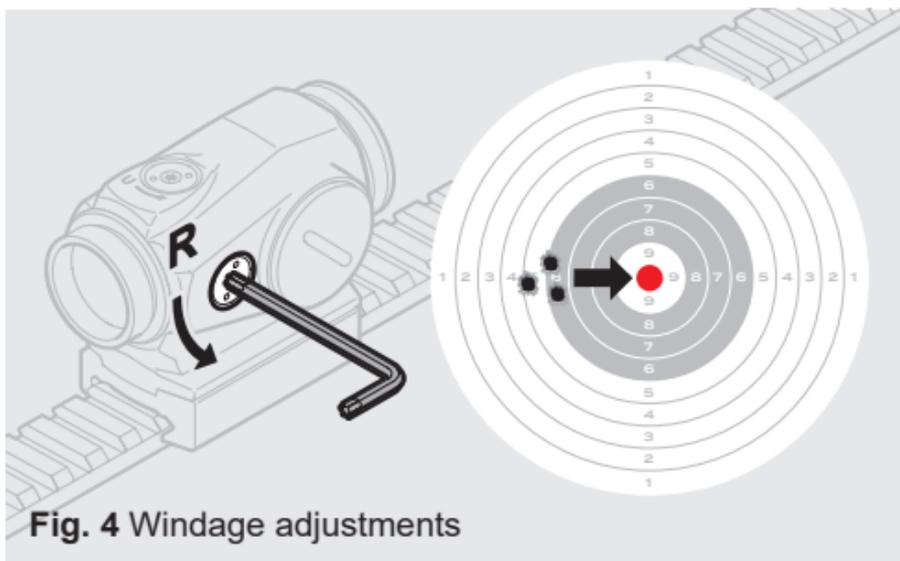
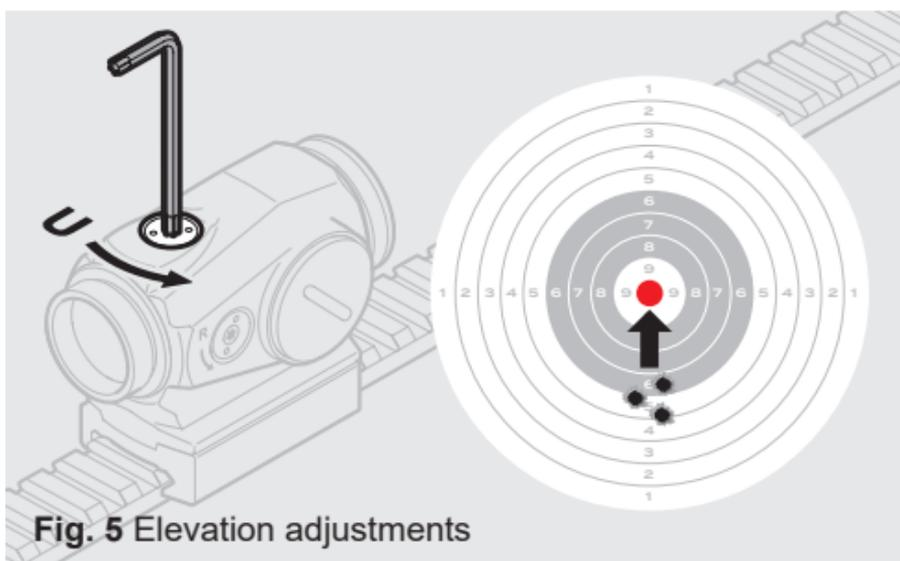

Fig. 4 Windage adjustments
Fig. 5 Elevation adjustments
- c Use the Torx T10 tool (3) to turn the adjustment screws.
- d Windage adjustments (see Fig. 4):
- Turn windage adjustment screw (6) counterclockwise to move point of impact to the right (R).
- Turn windage screw (6) clockwise to move point of impact to the left.
- e Elevation adjustments (see Fig. 5):
- Turn elevation adjustment screw (7) counterclockwise to move point of impact up (U).
- Turn elevation adjustment screw (7) clockwise to move point of impact down.
- g Ensure the sight is securely installed on the weapon and retighten the screw (12) if necessary.